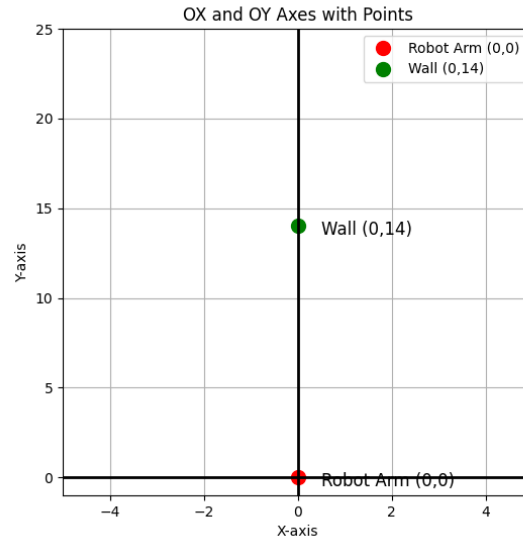

Figure 4: Position of the Wall related to the robot arm
- * **Position of the Wall (Figure 4):** The relative position of the wall to the robot arm.
In this dataset, only the wall facing the robot arm is considered, as shown in Figure 4 below. However, the dataset can be easily expanded to include the full coordinate positions of the wall relative to the robot arm, allowing for more comprehensive analysis and modeling.